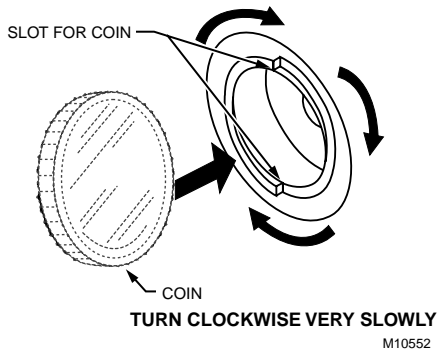

Fig. 11. Turn plastic indicator on timer side.
9. Verify the timer operation by activating the humidifier with an appropriately sized coin. Turn the plastic indicator clockwise very slowly. See Fig. 11.